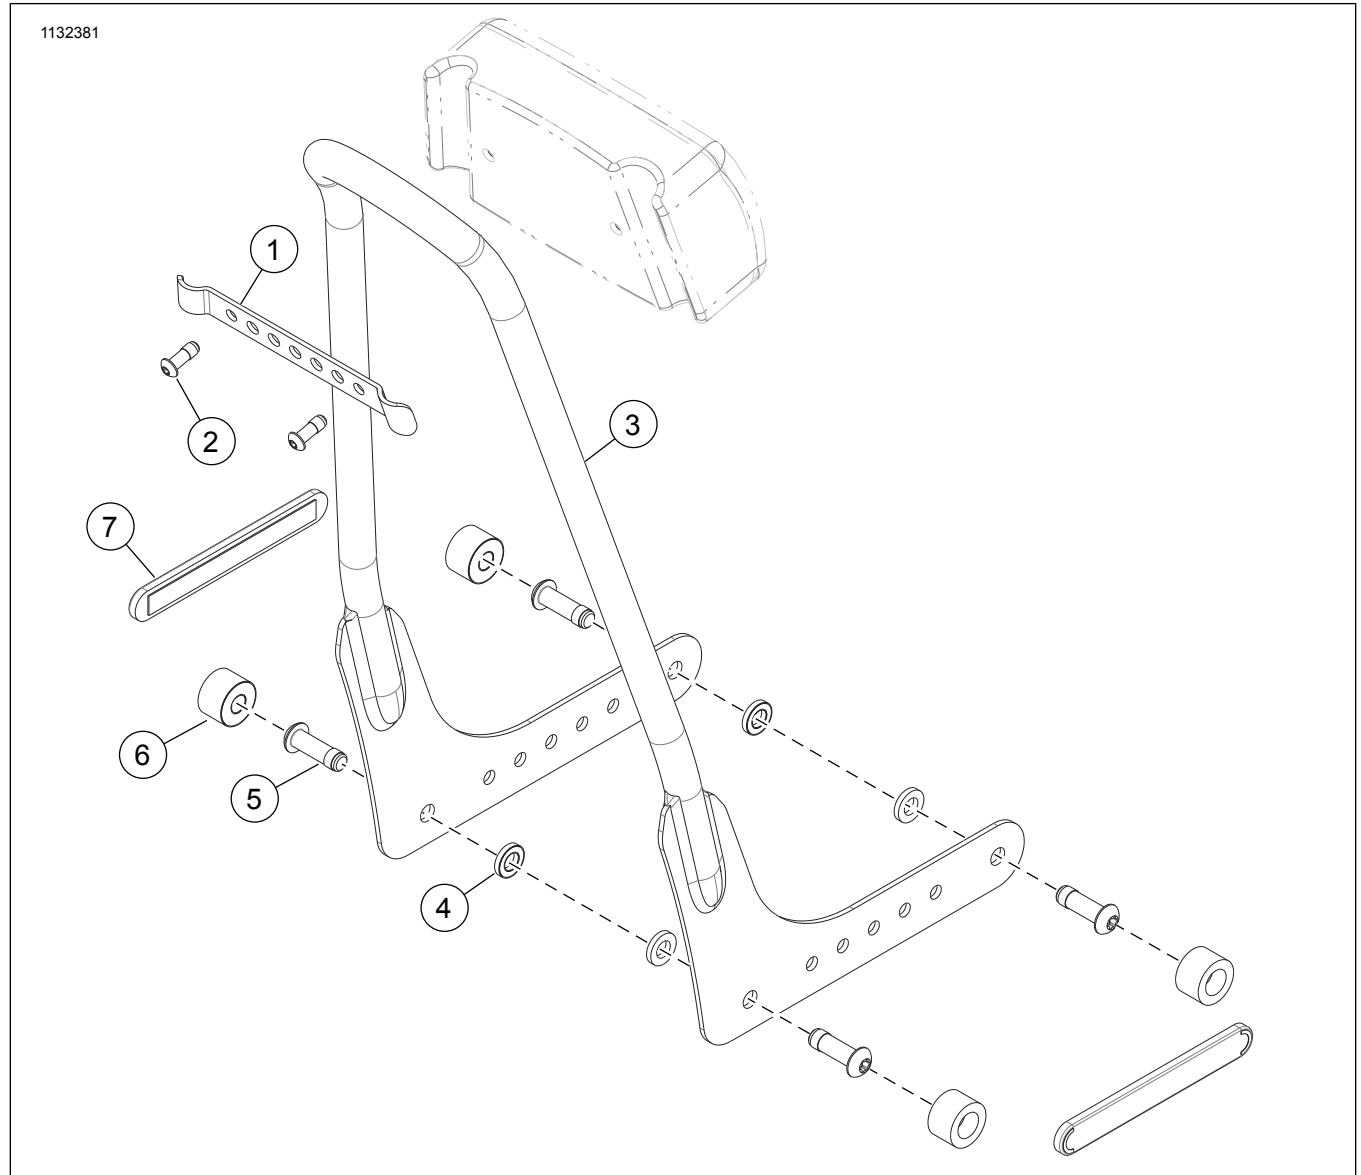

Figure 2.
See Figure 2 and Table 1 and Table 2.
See Figure 2. Install narrow washers (4) to backrest assembly (3).
*Make sure narrow washers (4) are installed prior to installation. See Prepare section.*
1. See Figure 2. Install backrest assembly (3).
2. Install screws (5) from kit. Tighten.
See Figure 2. Install wide washers (6) to backrest assembly (3).
2. Install backrest assembly (3).
3. Install reflectors (7) over decorative holes in sideplate.
4. Apply threadlocker. Install screws (5) originally removed from saddlebag or docking points.